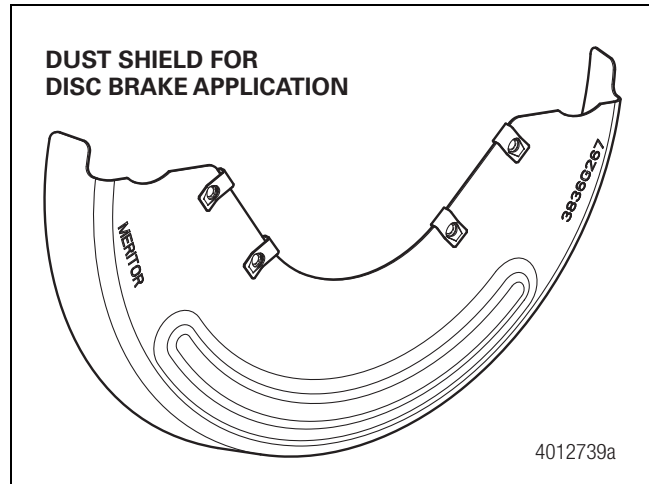

Figure 12.19
- For air disc brakes on Meritor trailers in production with single-piece dust shields, the dust shield helps prevent the rotor from coming into direct contact with foreign particles. The dust shield is designed to be used either with or without ABS equipment. Figure 12.19.